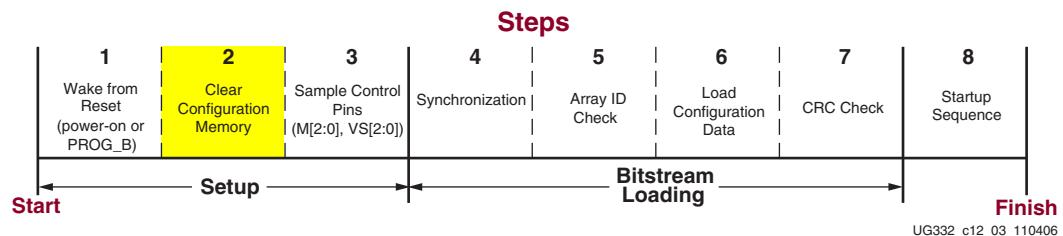

Figure 12-5: Clear Configuration Memory (Initialization)
2. Hold the INIT_B pin Low during initialization, which stalls the configuration process in Step 2 shown in Figure 12-5, page 245. However, after the FPGA releases INIT_B High, the application cannot subsequently delay configuration by pulling INIT_B Low.